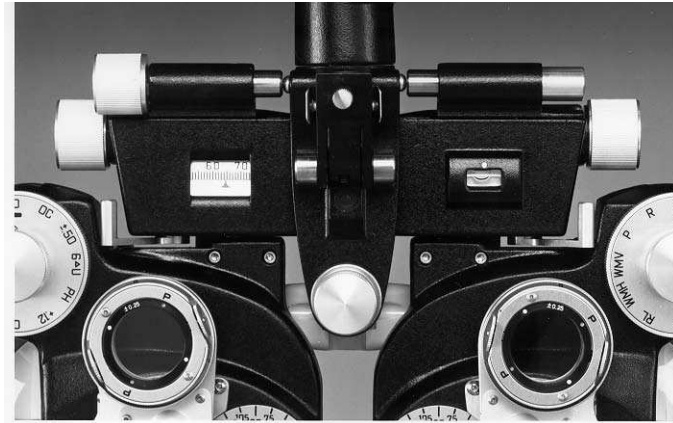

Figure TM-1 Vergence Levers Out (Distance Tests)
1. All tests for distance (static retinoscopy, subjective, phorometry) are generally made with the Vergence Levers in the extreme outward position. Refer to Figure TM-1.